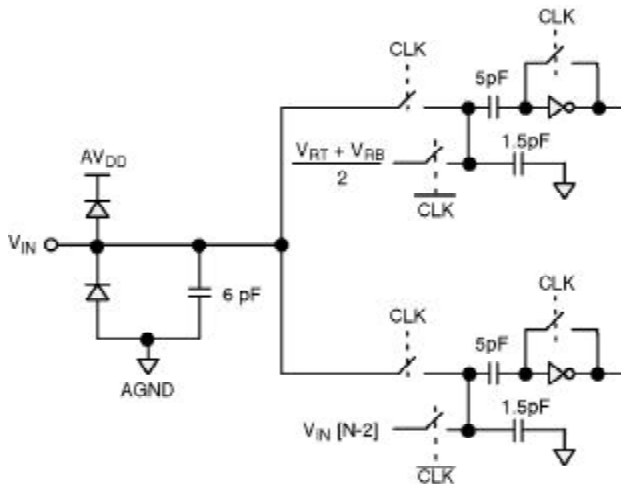

Figure 5. Equivalent Input Circuit
- See V_{in} input equivalent circuit (Figure 5). Switched capacitor analog input requires driver with low output resistance.
The reference can be biased internally by shorting V_{RT} to V_{RTS} and V_{RB} to V_{RBS} . This will generate $0.6V$ at V_{RB} and $2.6V$ at V_{RT} (see Figure 5).